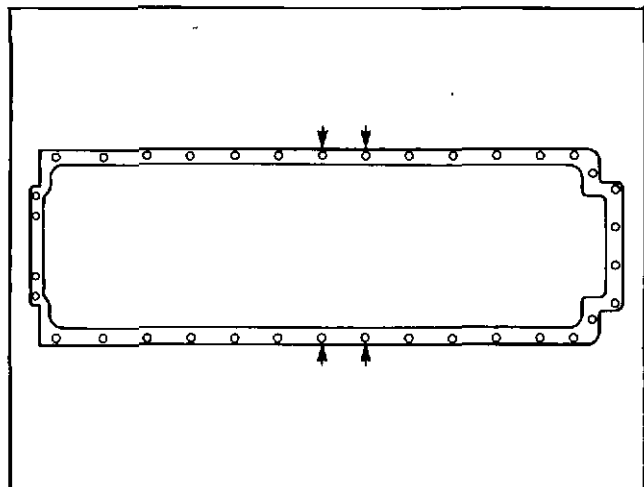

Fig. 14-63. Install The Capscrews Into The Oil Pan.
- b. Tighten two capscrews on each side of the oil pan flange. Tighten the capscrews that are located halfway between the front and the rear of the oil pan, Fig. 14-63.